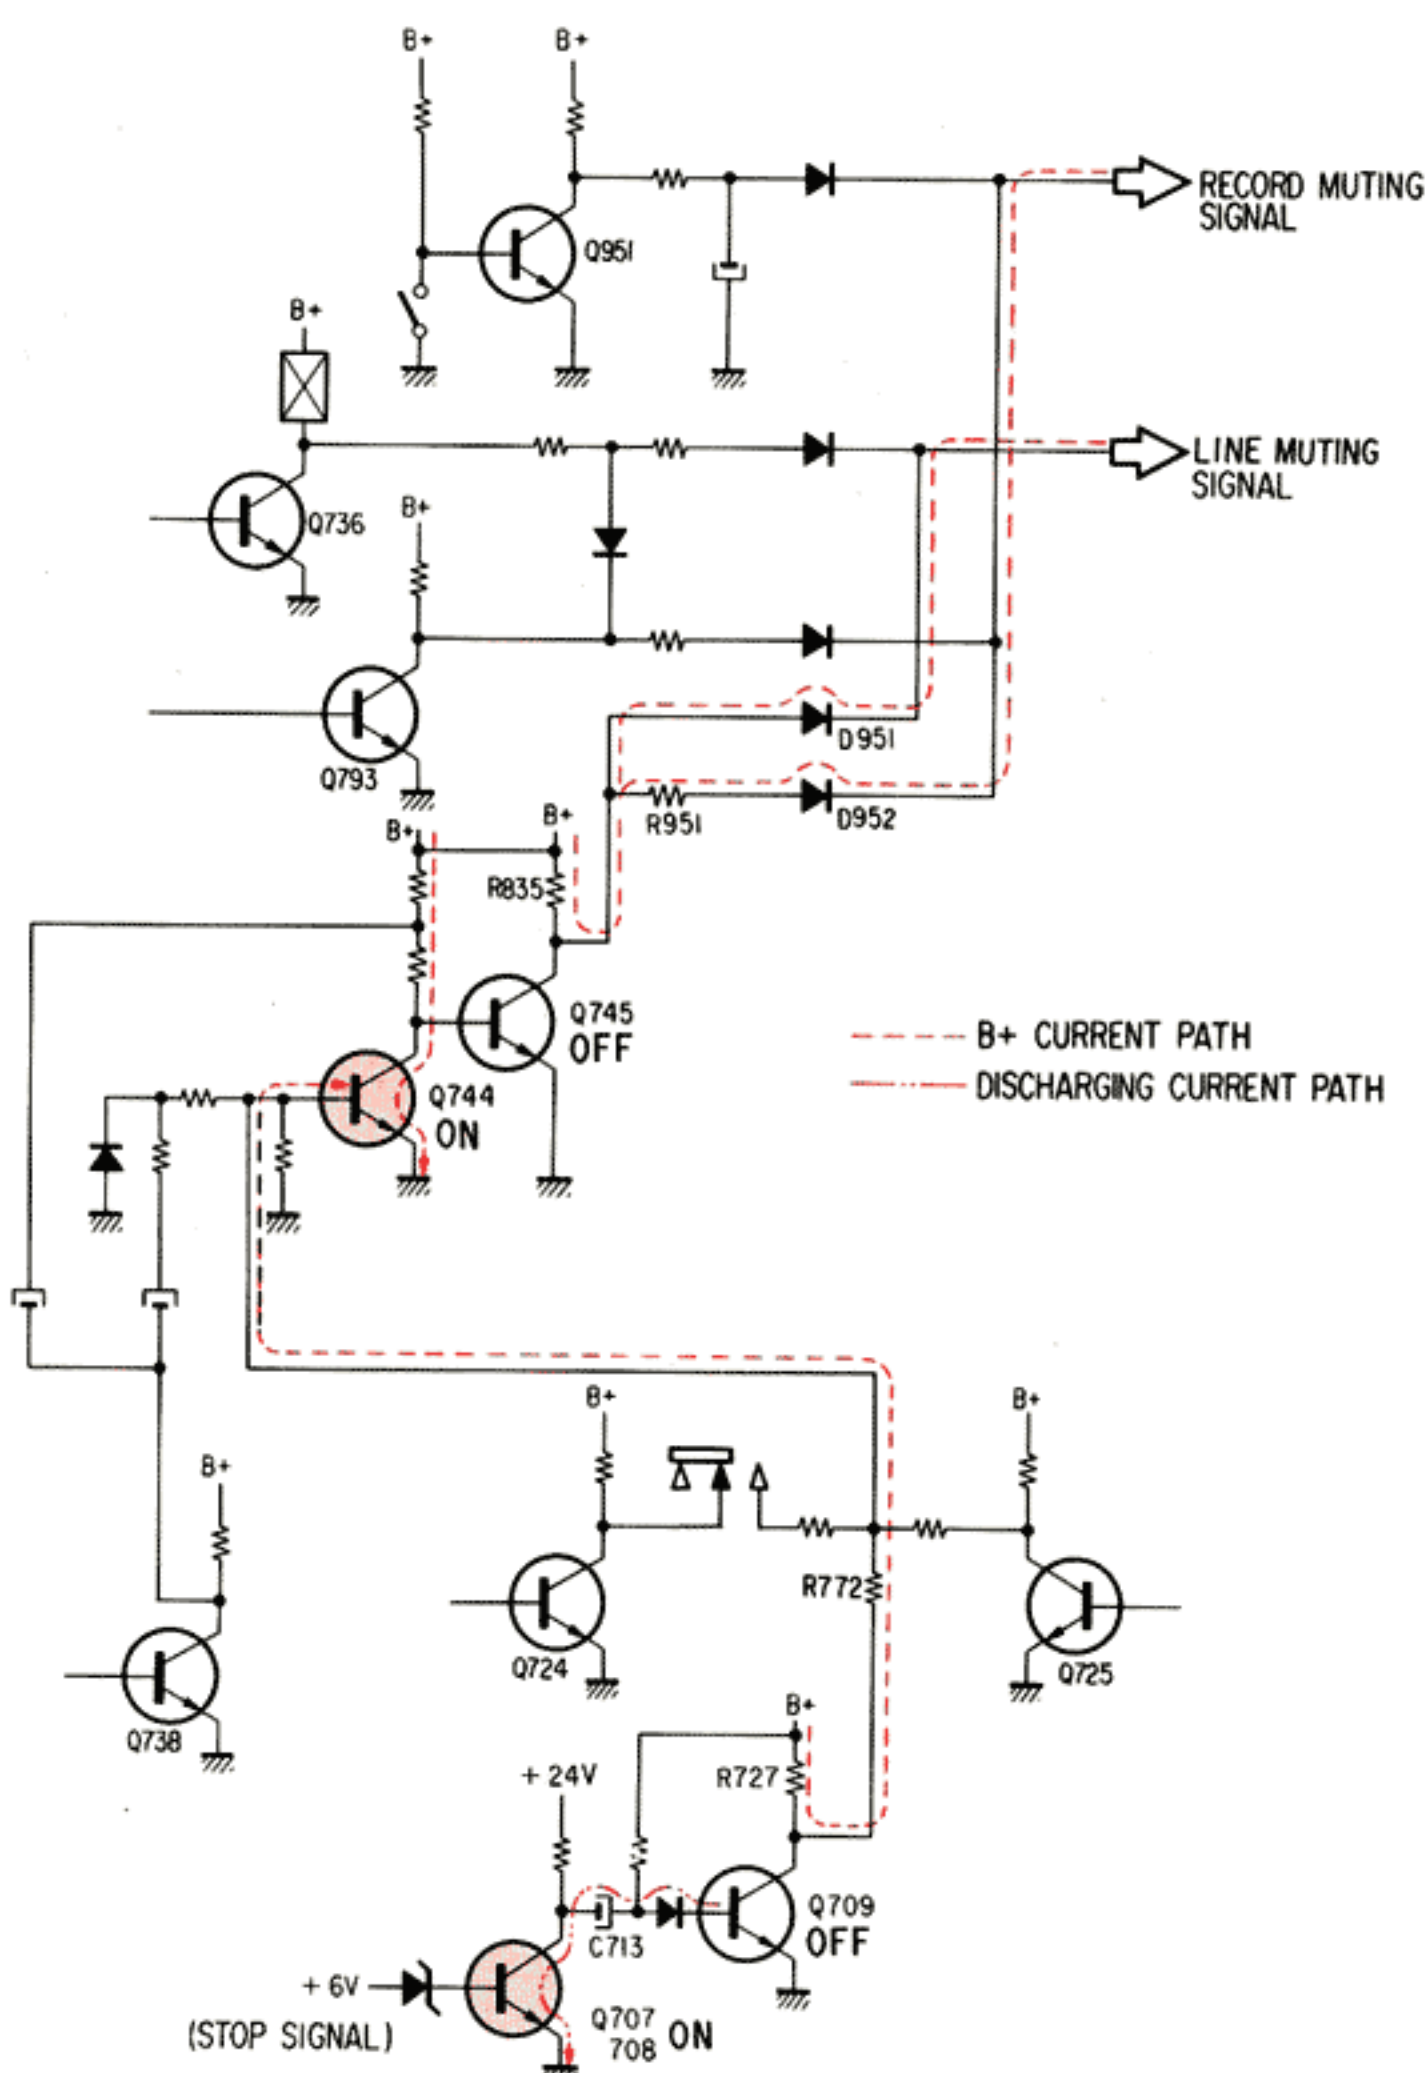

Fig. 1-9 Power Switch Turning ON
1. When power switch turned ON (See Fig. 1-9)